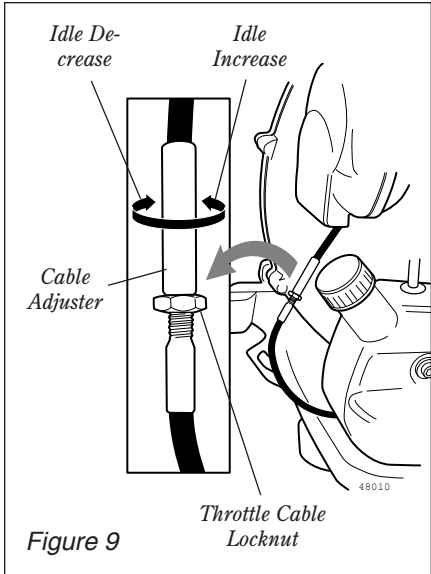

Figure 9
3. Loosen the throttle cable locknut. See figure 9.